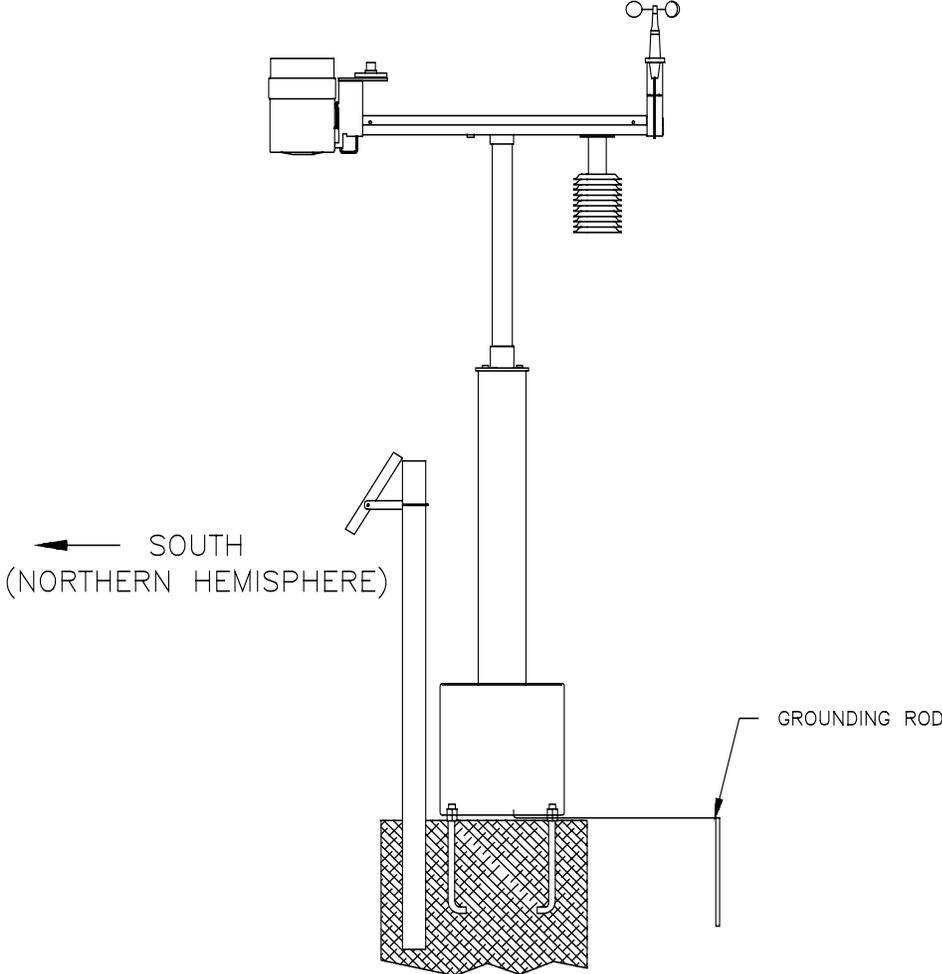
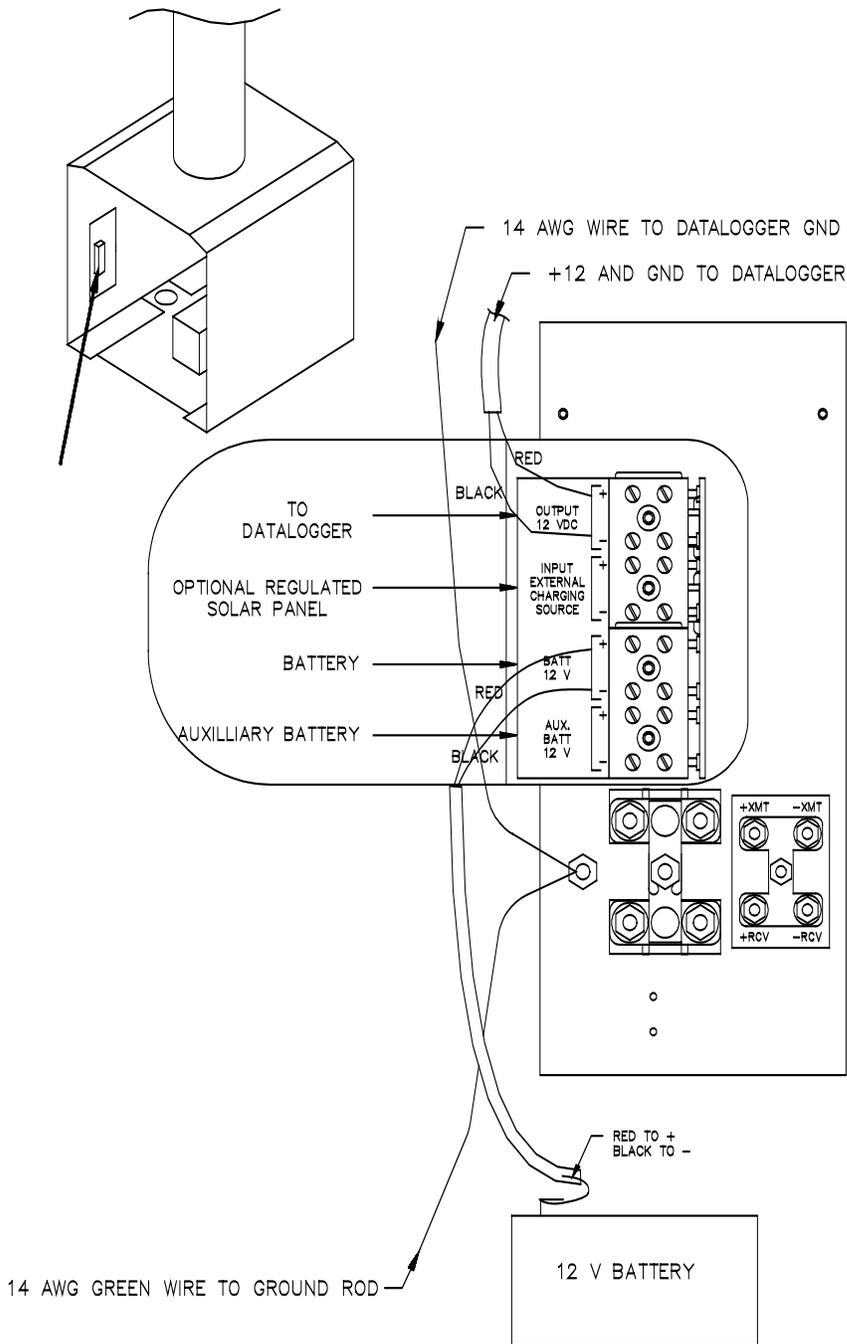

FIGURE 2.3-2. 012 Weather Station with Solar Panel
FIGURE 2.5-1. Battery/Solar Panel Connections
Step 5 - Weather stations using a solar panel for charging the battery need to insert a user supplied 1 1/4" pipe into the cement pad (Figure 2.3-2).
Following the procedure below, batteries may be replaced without losing power to the station. To install a battery, locate the terminal block inside the pedestal base where power supply connections are made (Figures 2.5-1 and 2.5-2). Connect the battery to the terminal labeled "Batt 12V". The power Sonic battery supplied by CSI is prewired with red lead positive and black lead negative. The Power Sonic should be continuously changed due to its smaller capacity, 6Ahr.
The solar panel is mounted (Figure 2.3-2) on the south side of the weather station (northern hemisphere only) and connects to the terminals labeled "INPUT EXTERNAL CHARGING SOURCE" (Figure 2.5-1).